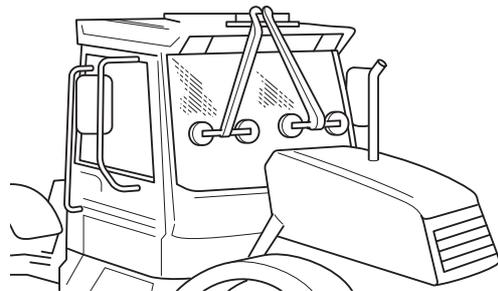

Fig 12. Typical M/c. Installation
- a Always use the special lifting tools when moving the glass. Use a lifting strap to hold large panes of glass in position. ⇒ Fig 12. \(□ B-54\)